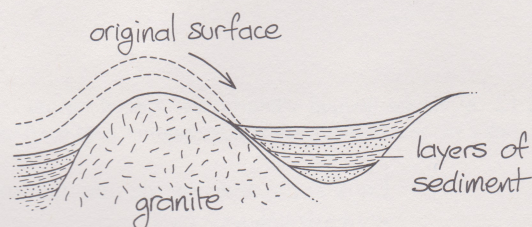

FIGURE 15 Overlying rocks are removed and deposited elsewhere as sediment.
- Because all the rocks that were on top have been worn away and removed as sediment, to be deposited elsewhere. This process is shown in Figure 15.